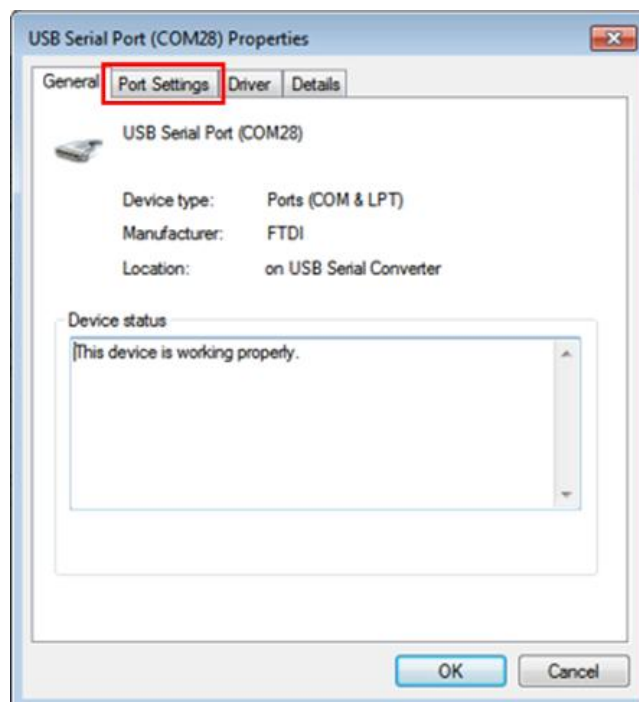

Fig. 3.18
6) In the USB Serial Port Properties window, select 'Port Settings' (Fig. 3.18).